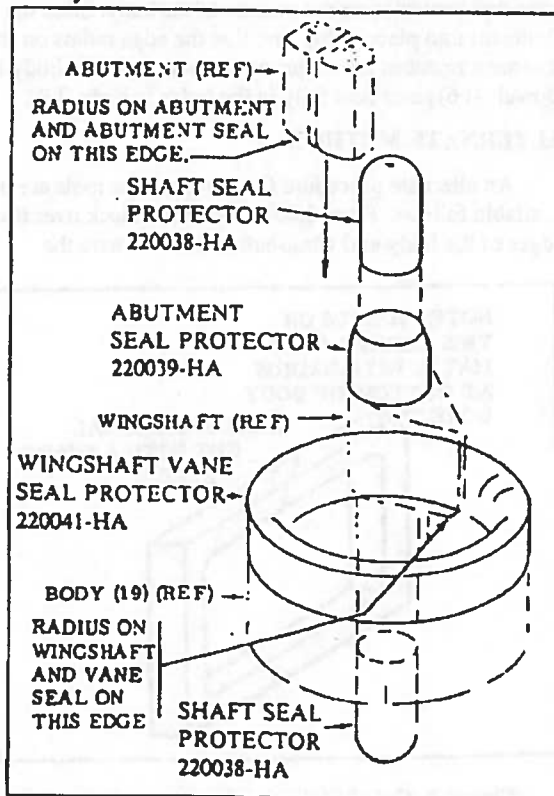
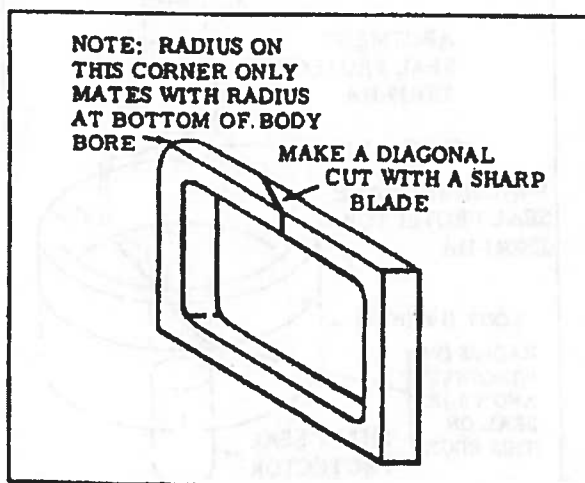

Figure 2. Special Assembly Tools Used to Protect Seals
Figure 3. Cut abutment seal to Permit installation on abutment.
The following special tools are recommended for use during reassembly of a HA Series Actuator. Alternate procedures, for use when the tools are not available, are provided herein but are not recommended. See figure 2 also.
d Place shaft seal protector (see figure 2) in body (19) and wingshaft vane seal protector (see figure 2) on the outside of body (19). Slide the wingshaft fully into the body being sure the edge radius on the wingshaft matches the radius on the bottom of the bore in the body. Remove the shaft seal protector.
e If removed, install dowels (16) in abutment (15). Stretch O-ring (18) around the abutment and seat in the seal groove. Make a centrally located diagonal cut through the side of abutment seal (17) that contacts the body (see figure 3). Use a razor blade to make the cut. Place the abutment seal (17) in position on abutment (15). The diagonal cut must be on the side of the abutment next to the body, and the edge radius on the abutment seal and abutments must coincide. Apply a liberal coating of lubricant to the abutment seal. Place abutment vane seal protector (see figure 2) on the wingshaft and wingshaft vane seal protector on the outside of the body. Slide the abutment into place being sure that the edge radius on the abutment matches the radius on the bottom of the body bore. Dowels (16) must seat fully in the holes in body (19).
h Place hub seal spring (7), hub seal ring (6), and hub seal (5) in end (3) being sure that hub seal (5) fits snugly and that it is free to move axially under the pressure of hub seal spring (7). Apply a heavy coating of lubricant around hub seal (5). The lubricant must keep the hub seal correctly positioned when end (3) is turned over to install it on body (19). Place shaft seal protector (see figure 2) on the end of wingshaft (12). Position end (3) over body (19) and lift (12) and press it onto the body being sure the wings cap screw and dowel pin holes are aligned. Remove the shaft seal protector from the wingshaft. If the shaft seal protector is not available, use caution to avoid tearing or distorting shaft seal (8) by the wingshaft.